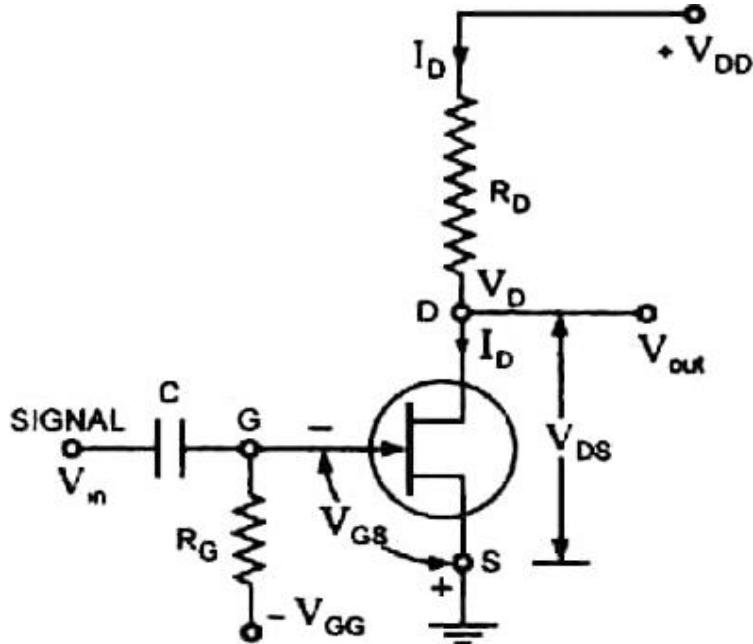

Figure 3.5 (a) Fixed bias method of JFET
- i. **Fixed bias:** As shown in Figure 3.5 (a) in this method JFET is biased by a battery V_{GG} to ensure that gate is always negative w.r.t. source during all parts of the signal.